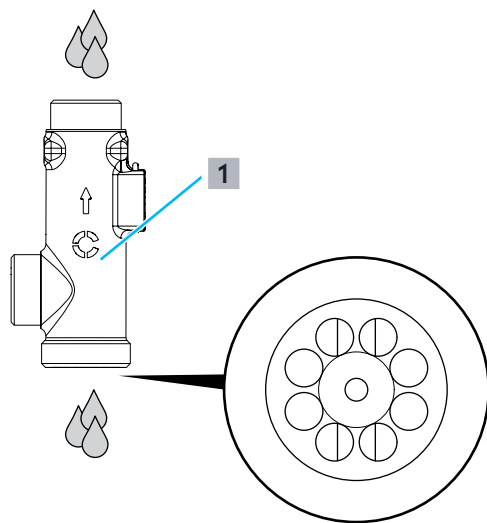

Fig. 23: Cleaning the volume flow sensor under running water
- 8 Hold the volume flow sensor housing ((1) in Fig. 23 on page 31) under running water in the opposite direction to the flow direction to remove residues such as hemp residues and to clean the slide-in turbine.